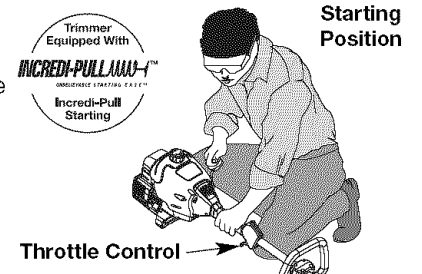

Fig. 4
4. Crouch in the starting position (Fig. 4). Do not squeeze the throttle, and pull the starter rope with a controlled and steady motion until the unit starts. Wait 10 to 15 seconds, then squeeze the throttle to control the cutting speed.